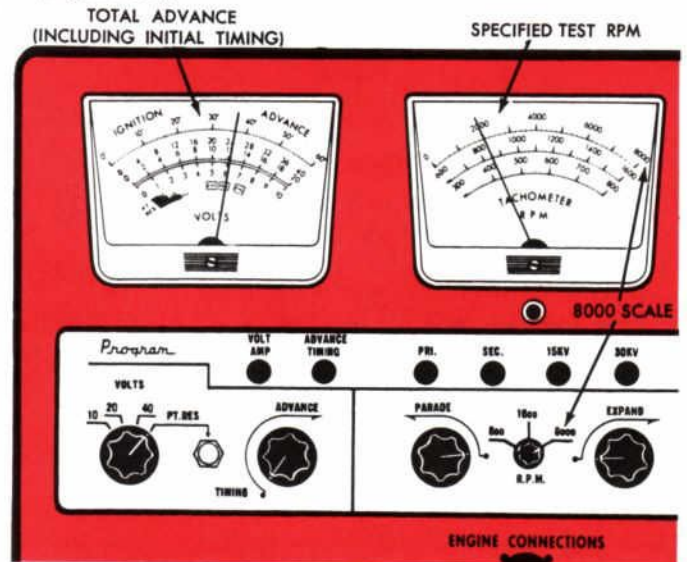

Figure 11—Total Advance Test
5. Read the total advance on the IGNITION ADVANCE (Figure 11).